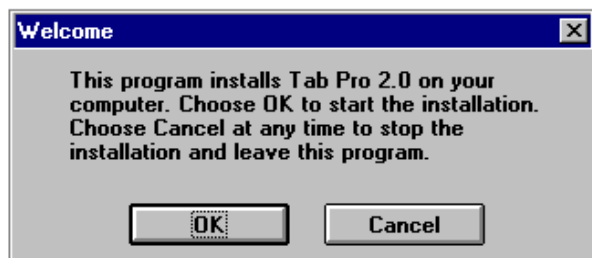

FIGURE 32. TabPro Welcome Dialog
8.65 Click the 'OK' button on the 'Welcome' dialog. See Figure 32.